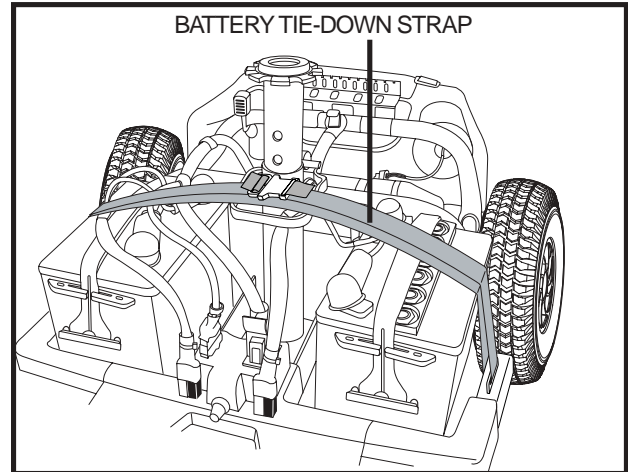

Figure 13C. Battery Tie-Down Strap
11. Reconnect the battery tie-down strap—making sure the strap is positioned over the frame release lever to ensure proper securement. See **figure 13C**.